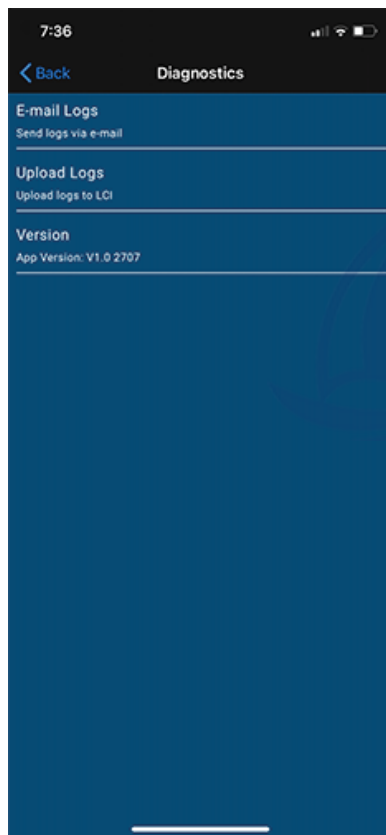

Fig.41
7. Tap DIAGNOSTICS (Fig. 38C) for a list of app logs and version (Fig. 41).